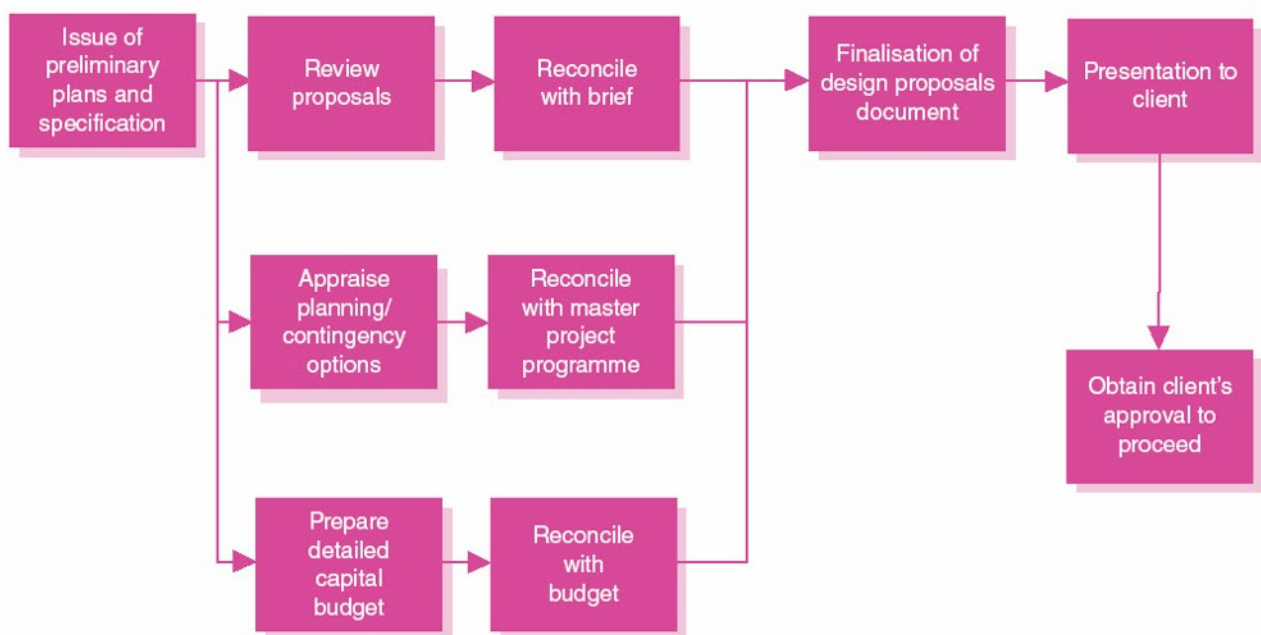

Figure 4.2 Development of Design Proposals
- Submitting, in conjunction with the design team leader, design proposals, reports and design development (formerly scheme design) drawings to the client for approval (see Figure 4.2).